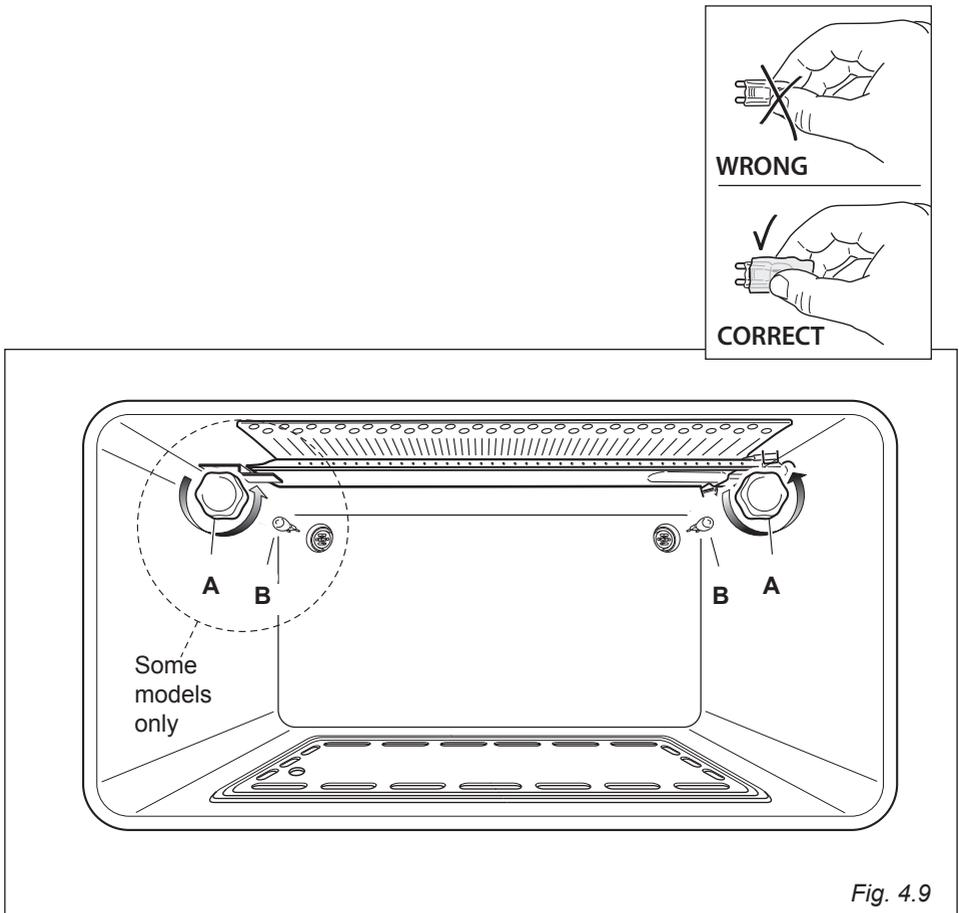
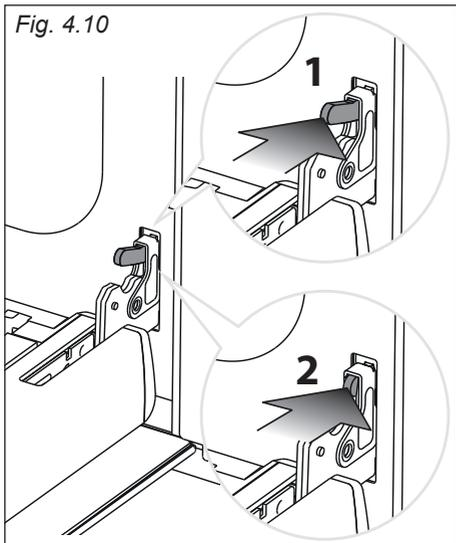

Fig. 4.10
Fig. 4.11
- Open the door to the full extent (fig. 4.10) and check to see which side the damper hinge is fitted for the soft close feature as shown in fig. 4.10. This may be fitted on left or right of the door depending on exact model.
- Push the Damper Pin (arrow 1 in fig. 4.10) slowly, applying pressure until it moves in towards the oven and becomes flush with the hinge lever (arrow 2 in fig. 4.10). The Damper Pin does not react immediately and is very slow to move as it necessary to overcome the inertia of the soft close mechanism. If the Damper Pin is difficult to move, it may be necessary to use a suitable tool to allow extra pressure to be exerted, for example the back of a teaspoon. Please pay special care whilst pressing to avoid slipping and injury.
- Keeping the Damper Pin flush with the hinge lever (arrow 2 in fig. 4.10), rotate the hinge lever forward by using a small flat screw driver (arrow 3 in fig. 4.11) ensuring that you do not damage the enamel or oven.
- Rotate the hinge lever completely (arrow 4 in fig. 4.11). Repeat this step for the other hinge.